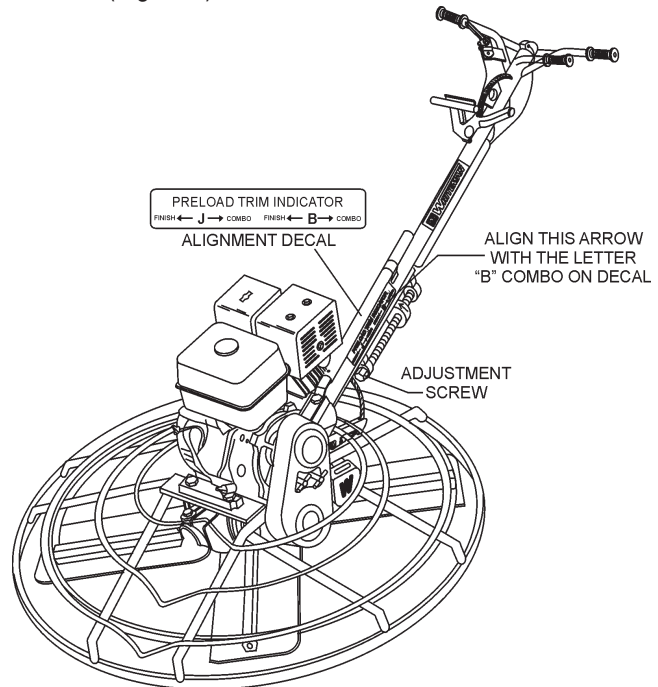

Figure 9. Cable/Yoke Attachment
- Locate the adjustment screw on the underside of the handle tube (Figure 9).